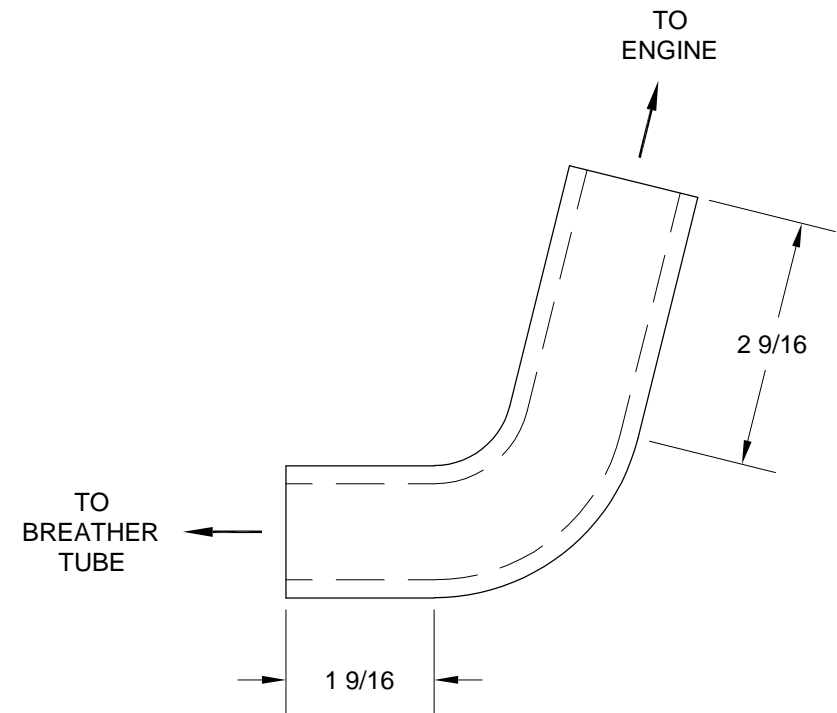

FIGURE 2: MODIFYING THE RV-10 BREATHER HOSE
Step 2: Cut the EA CV HOSE 7545 RV-10 Breather Hose to the dimensions in Figure 2.